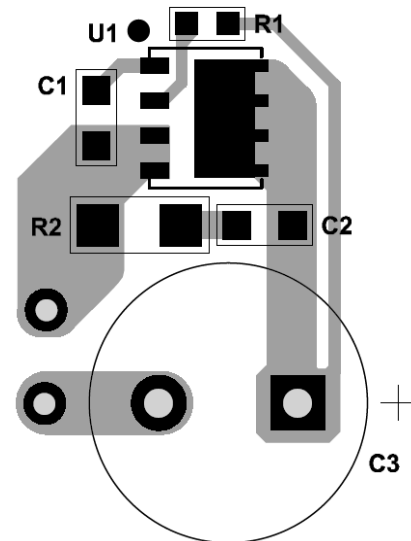

**Figure 5: Voltage Sensing for VD/SENSE**
Efficient PCB layout is critical for stable operation. For best results, refer to Figure 5, Figure 6, Figure 7, and follow the guidelines below.
1. Connect SENSE pin to different position for an adjustable turn-off point of time during the fast transients in CCM. In general, the farther the junction point is from the VD, the earlier the SR turns off. (See Figure 5).